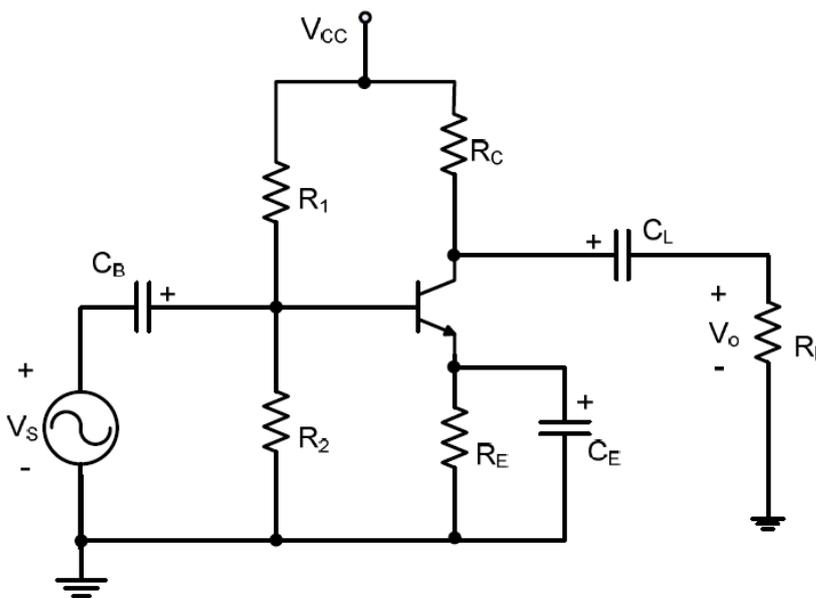

Figure 1: Common Emitter Amplifier
- All the preparation parts must be computed before the experiments part. Consider the circuit of Fig. 1.
A typical common emitter amplifier stage is shown in the Figure 1. The placement of the Q-point on the AC load line determines the maximum symmetrical AC component in the collector voltage and current.
- 1) Build the circuit in Fig.1 with the values you calculated in part (1) of the preparation. If necessary, re-adjust R_1 , R_2 so that $I_{CQ} \approx 1 \text{ mA}$.
- 3) Repeat (2) with C_E removed.
- 4) Replace R_1 , R_2 with the ones found in the pre-lab preparation part (4) and measure the new unclipped output.
- 5) Repeat (4) with C_E removed.